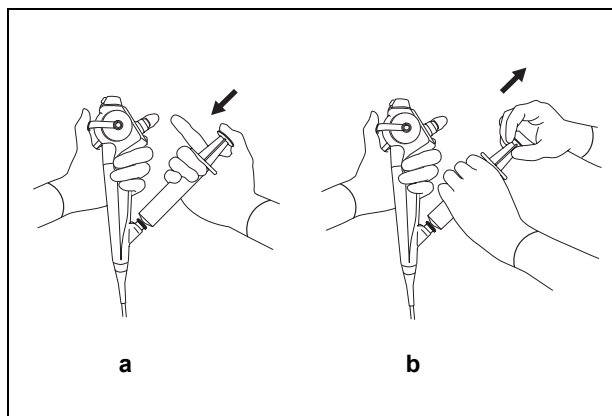

Figure 4.6
2. Press the plunger to feed lavage fluid (see Figure 4.6 a).
3. With the syringe attached, slowly withdraw the plunger to aspirate lavage fluid (see Figure 4.6 b).